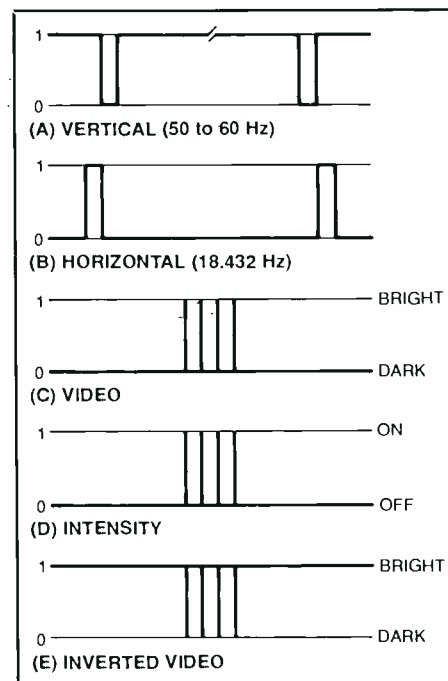
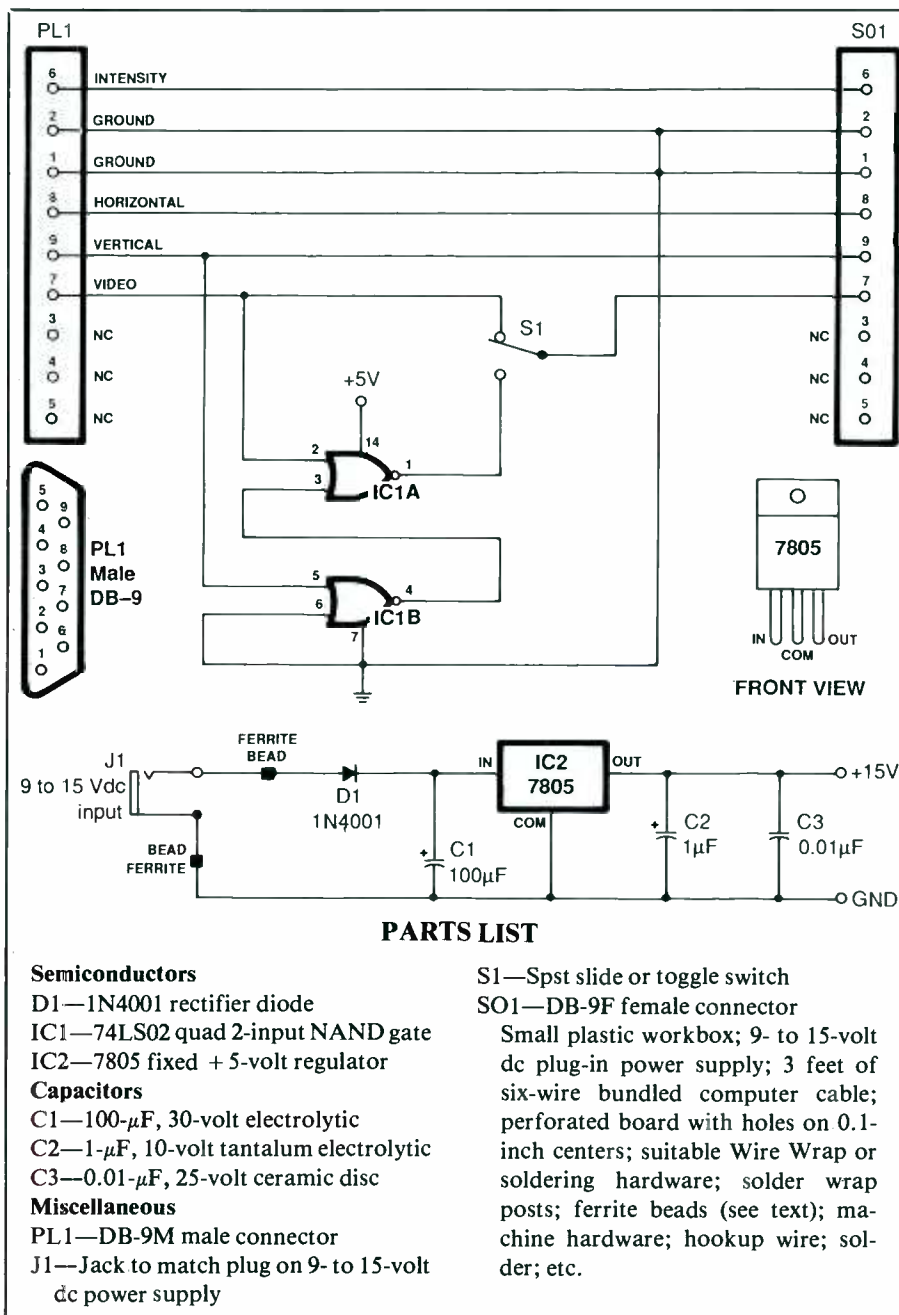

Fig. 2. Waveforms (A) through (D) show TTL-level inputs to the video monitor. Waveform (E) is inverted-video signal.
Fig. 3. Complete schematic diagram of video-inverter module's circuitry.
The monochrome video monitor receives four TTL signals from the computer video board. These include the horizontal and vertical synchronization (sync) pulses, the video signal and the intensity signal illustrated in Fig. 2. Figure 3 shows the schematic diagram of the video inverter. The display viewed on the screen is "painted" by an electron beam scanning from left to right, beginning at the top of the screen and proceeding line-by-line to the bottom of the screen.
In Fig. 2, (A) is a drawing of the vertical sync pulses that go negative from a logic 1 of about 5 volts to logic 0 level of near zero volt. (B) illustrates the horizontal pulses that go positive from logic 0 to logic 1. (C) is a video signal that forms four bright dots during its associated horizontal scan line. In the normal video mode, logic 0 corresponds with a dark background, logic 1 a bright foreground or alphanumeric text.
Shown in Fig. 2(D) is the intensity signal that rests at logic 0 when high intensity is off. When a character, word or text line is intensified, each associated video pulse is accompa-
The video inverter reverses the video display by turning the Fig. 2(C) video waveform up-side down as shown in Fig. 2(E). However, during the vertical retrace interval, a few horizontal scan lines appear diagonally on the screen, which mars the display. This is corrected by the vertical pulses, which blank the screen during vertical retrace.
As shown in the schematic diagram shown in Fig. 3, the adapter connects to the computer video board via a cable and male DB-9 plug *PL1*. All signals, except for the video signal, pass directly to female DB-9 socket *SO1*. The video signal passes to NOR gate *IC1A* and to switch *SI*.
numbers shown in Fig. 3.
Using excess cable as a source of color-coded wire, prepare 3-inch lengths of wire and solder to corresponding pins of female socket *SO1*. Figure 3 shows the wire insulation color codes used in my prototype, but yours may differ. This is okay, as long as you match the color-coding on the pin connections to *PL1* with those to the pins of *SO1*.